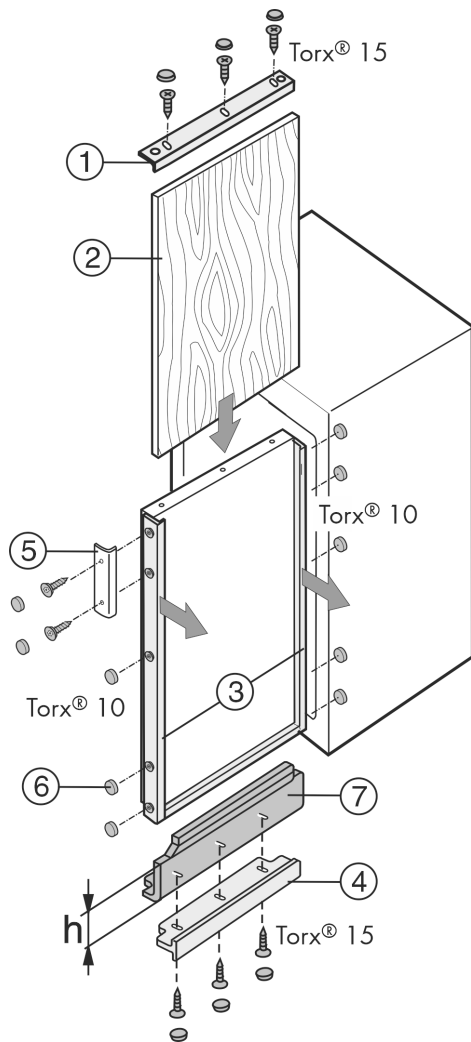

Fig. 42
If a décor panel is already there but not tall enough, you can adjust it with different height adapter panels Fig. 42 (7).